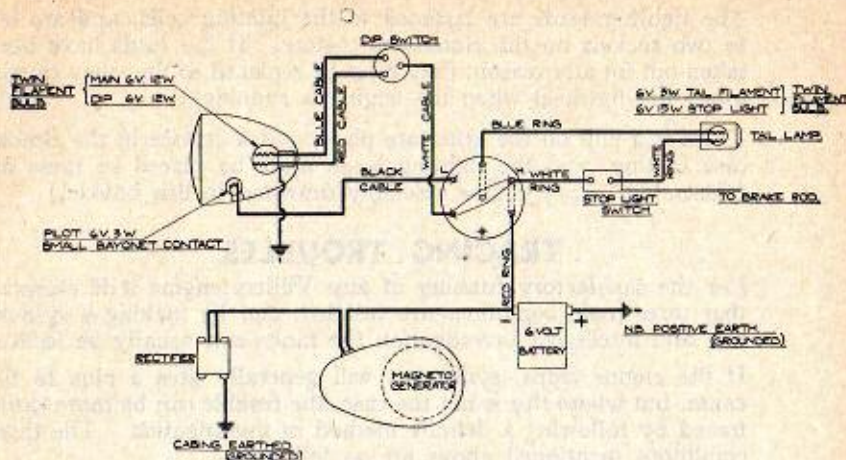

Fig. 5.—Rectifier type lighting set—wiring diagram.
**Care of the Rectifier Lighting Set.** The wiring connections between the battery and rectifier, and the rectifier and magneto, are given in Fig. 5 (page 15). Note that the positive side of the battery is "earthed" to the frame of the motor-cycle. The rectifier itself is hermetically sealed, and can be fitted to any part of the frame of the machine, provided that metal-to-metal contact is made with the outer plate of the rectifier, which is the earth connection of the circuit.